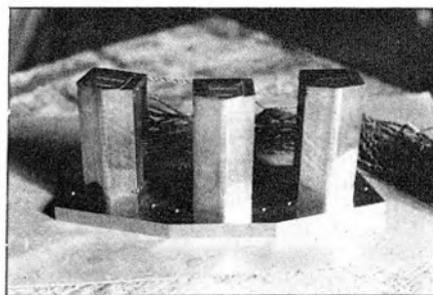

Fig. 8. 16-track 50.8 mm Gresham heads
50.8 mm Gresham heads is shown in fig. 8, the interesting thing being that there is no provision for azimuth adjustment. While variable azimuth is standard on their 6.25, 12.5 and 25.4 mm machines, Unitrack do not approve of this facility for 50.8 mm tape. They found it about impossible to obtain a screw with sufficiently fine thread to give a reasonable adjustment, so although they *can* supply this facility, they are not happy about doing so. It seems that not all of their customers agree with this policy, and one has recently specified the facility on seven 50.8 mm machines. Where fixed heads are used Unitrack achieve accurate positioning by grinding and lapping the baseplate of the headblock and bolting it to 3 bushes in the deckplate. These bushes are about 9 mm in diameter and are inserted into the deck so that they protrude. The tops are then machined flat but they are still just clear of the deck, so determining the positioning of the headblock.